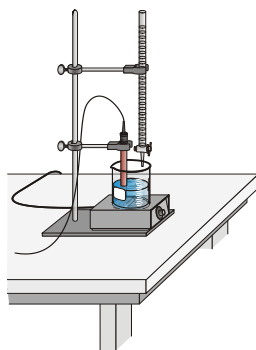

Figure 1
6. Set up a ring stand, buret clamp, and buret to conduct a titration (see Figure 1). Rinse and fill the buret with the NaOH solution.
7. Use a utility clamp to suspend the pH Sensor on a ring stand as shown in Figure 1. Position the pH Sensor in the KHP solution and adjust its position so that it is not struck by the stirring bar. Gently stir the beaker of solution.